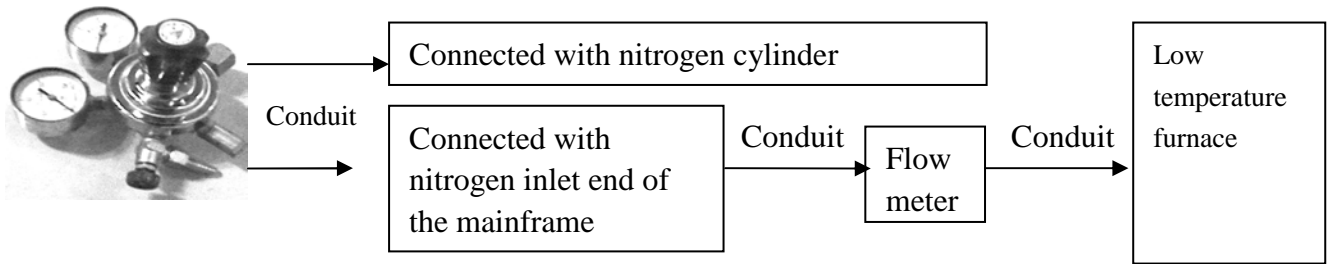

Fig 3-12
- 4) Install the low temperature furnace gas supplying system as shown in Fig.3-12 Circuit Diagram: This gas supplying system needs to be used when classic moisture test with nitrogen is adopted.